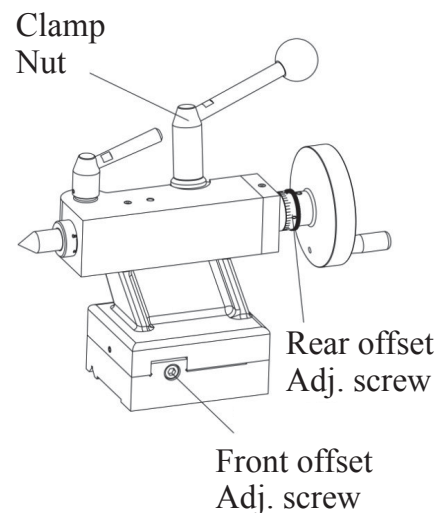

Figure 12 Tailstock positioning controls
1. Using a 17 mm wrench, loosen the tailstock clamp nut shown in Figure 12.
The two offset adjustment screws (Figure 12) position the tailstock away from the center line for turning tapers. To offset the tailstock to the left of the center line, do these steps: